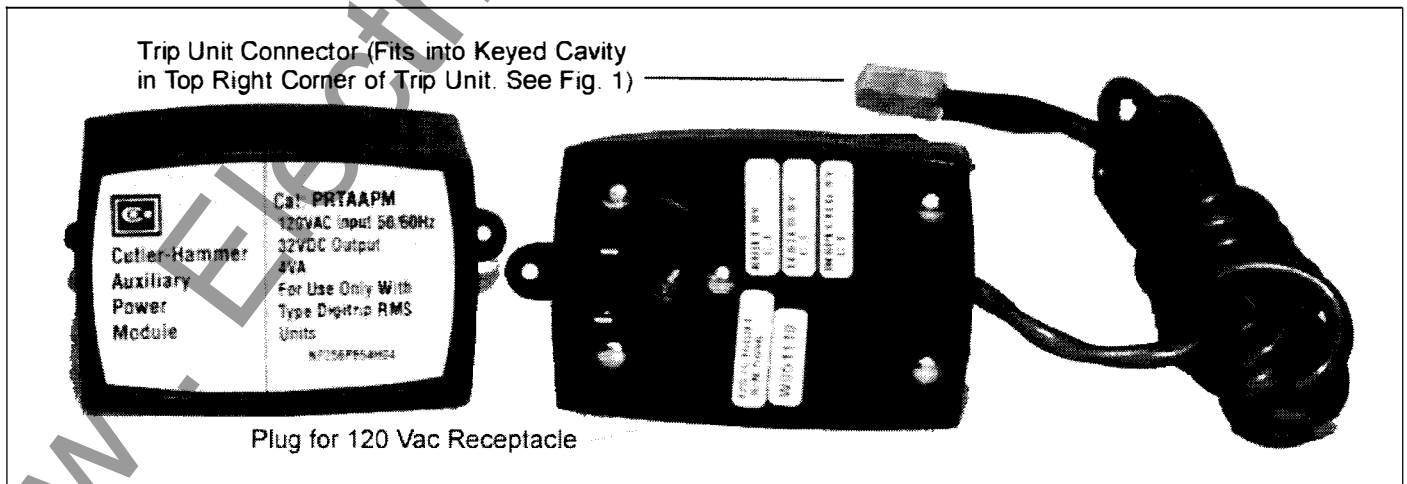

Fig. 7 Auxiliary Power Module
Since the Digitrip RMS 510 Trip Unit is completely self-powered using energy derived from the current sensors installed in the circuit breaker, all in-service tests conducted should be conducted with the auxiliary control power module, shown in Fig. 7, plugged into the trip unit. This action will avoid difficulties caused by load current levels that are too low to operate the trip unit.
- 1) **Before starting any test sequence, check the Unit Status (Green LED) in the lower right corner of the trip unit (See Figs. 1 and 5) to be sure it is blinking on and off about once each second, which indicates that the trip unit is functioning normally.** In the event the Unit Status LED is not blinking, install an Auxiliary Power Module (APM) (See Fig. 7), or if you have one already, check to see that it is connected correctly.
- a) **the current is not less than 10% of the breaker frame (or current sensor) rating; be sure the “GREEN” Unit Status LED (in the lower right corner of the trip unit (See Figs. 1 and 5) is blinking on and off (indicating that there is enough current flowing to provide the power necessary to operate the trip unit). In the event the Unit Status LED is either lighted “GREEN” or “OFF” continuously, there is NOT enough current flowing to power the trip unit; and an APM (See Fig. 7) should be installed before proceeding with the test.**
- 3) **When performing tests on the Long Delay element, be aware that in addition to the standard protection element, the Digitrip RMS 510 Trip Unit also has a Long Time Memory function (LTM), which serves to protect load circuits from the effects of repeated overload conditions. (See NOTE 1 under Section 4.3 Long Delay Time Setting.) The action of the LTM will have the same effect of advancing the Long Delay Trip Time if multiple Long Delay Time tests are performed repeatedly - as one might do in making single phase tests on each pole of a breaker in succession, for example. If you have sufficient experience in performing tests with this kind of accelerated trip timing, you may be comfortable with the results of tests performed in quick succession. However, if there is any question, you may simply wait about ten (10) minutes after a Long Delay Trip for the LTM to reset, before you check the next pole.**
For testing the trip unit, an optional Auxiliary Power Module (Cat. No. PRTAAPM) as shown in Fig. 7 is recommended. This Auxiliary Power Module, which operates from a separate 120 Vac supply, may be used when a drawout circuit breaker is in any of its four cell positions, i.e., “Connected”, “Test”, “Disconnected” and “Withdrawn” (or “Removed.”)
Note: For Testing Purposes Only: When using an external single phase current source to test low level ground fault current settings, it is advisable to use the Auxiliary Power Module (APM) (See Fig. 7). Especially when the single phase current is low, without
The Auxiliary Power Module or APM (Cat No. PRTAAPM), illustrated in Fig. 7, is an encapsulated power supply that requires a 120 Vac input at either 50 or 60 Hz. It provides an output of 32 Vdc (nominal 40 Vdc open circuit) which can be used for testing a Digitrip RMS 510 Trip Unit.